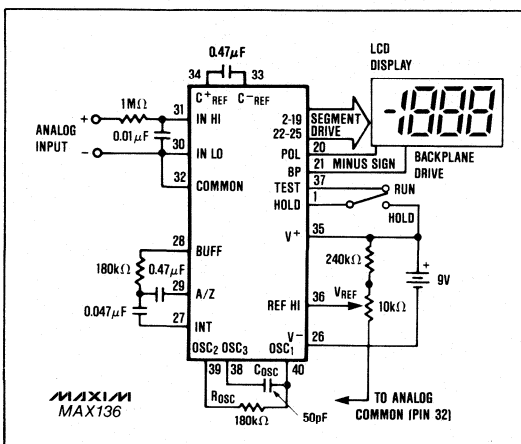

Figure 1. Maxim MAX136 Typical Operating Circuit, 200mV Full Scale.
( $V^+ = 9$ V;  $T_A = 25^\circ\text{C}$ ;  $f_{\text{CLOCK}} = 48$ kHz; test circuit - Figure 1 unless noted.)
**Note 3:** Test condition is  $V_{\text{IN}}$  applied between pins IN-HI and IN-LO, i.e., 1M $\Omega$  resistor in Figures 1 and 2.
**Note 6:** 1M $\Omega$  resistor is removed in Figures 1 and 2.
are not updated; when the Hold input is low or at the Test voltage, the display is updated at the end of each conversion. The MAX136 maintains low power dissipation even during display hold by eliminating the pull-down resistor between Hold and Test present on the ICL7116. The Hold input is CMOS compatible, and can also be driven by a switch connected between Test and V+ (Figure 1).